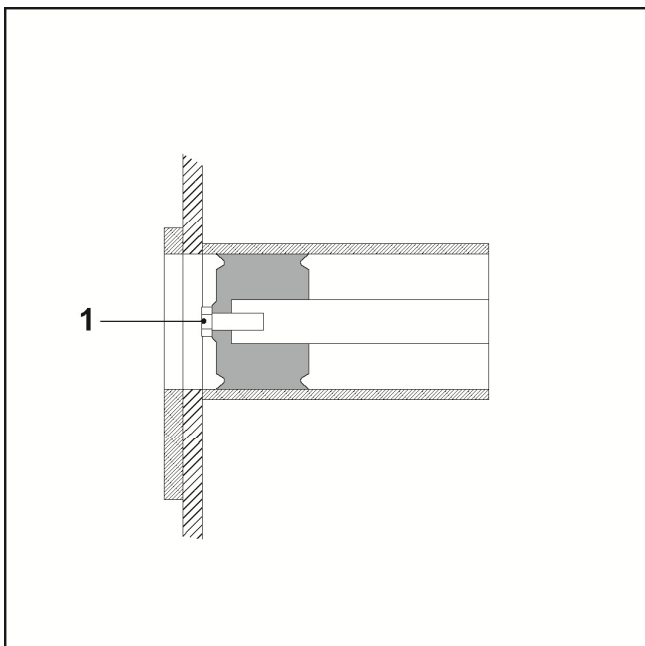

FIG.48
- Remove the screw (FIG. 48-REF. 1) on the piston head.